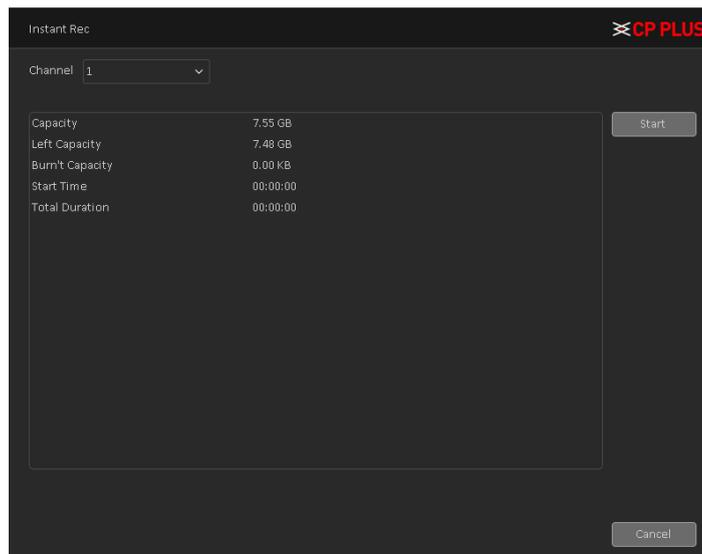

Figure 4.64
- **[Instant Rec]** User can instantly record live stream in backup drives, insert Backup drives like flash drive or external drive in DVR (WITHOUT HDD) when the device detected by system then click on instant Rec. In new window here to select channel No. and click on start button. DVR (WITHOUT HDD) will start recording in backup drive until user click on stop button. See Figure 4.64